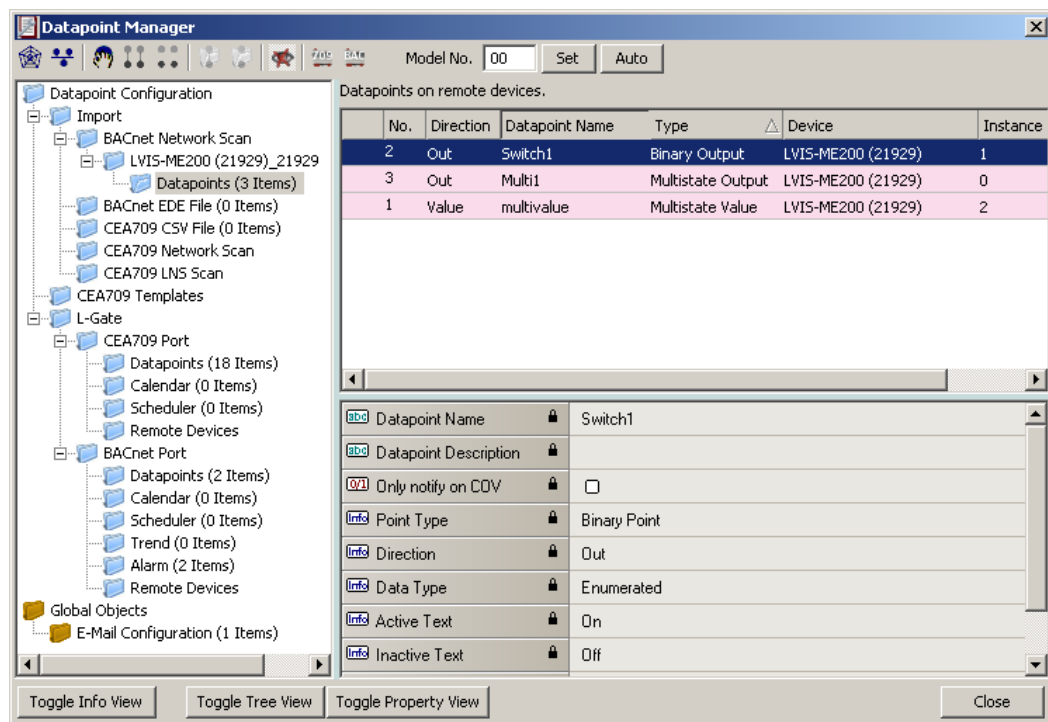

Figure 108: BACnet network scan results.
5. Select a device in the device list and click the button Scan Objects. This scans the BACnet objects on the selected device and adds them to the BACnet Network Scan folder as a separate sub-folder for the device as shown in Figure 108.